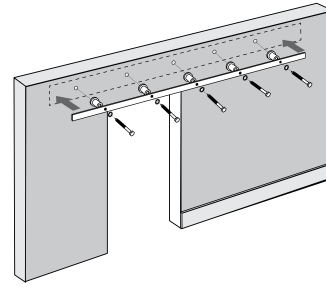
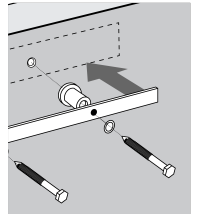

Figure 3
Figure 3-1
- Position lag bolts, washer, track and wall spacer in above shown sequence (Figure 3-1). The wider end of the spacer should be placed against the wall. Use low-torque tools to fasten the lag bolts as shown in Figure 3.
- Fasten the track using the lag bolts, wall spacers and washers as shown in Figure 3 in page 3